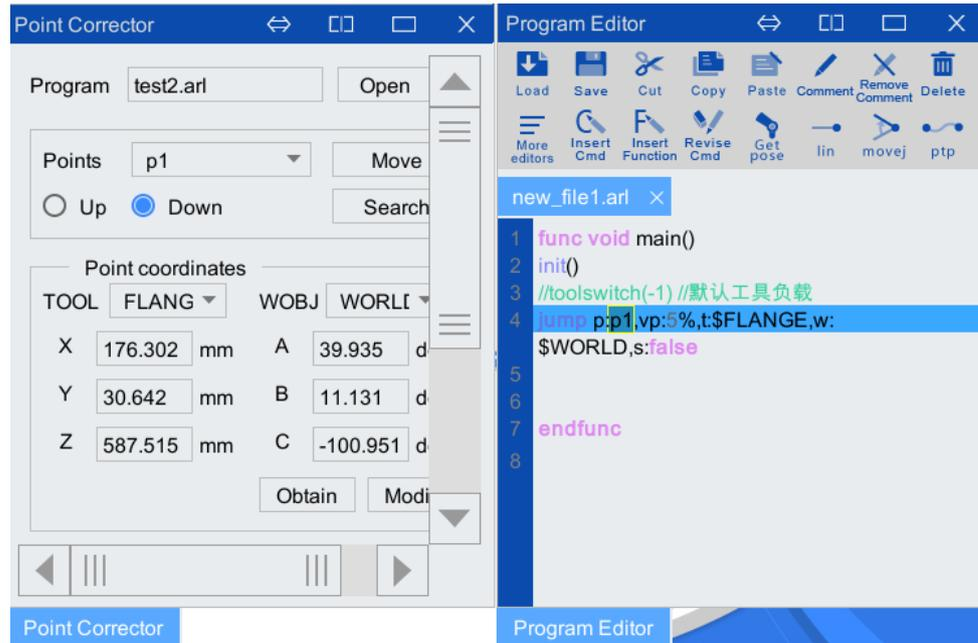

Figure 5-104 "Point List" Related button introduction
Step3.Click the drop-down box of "Point List" in Figure 5-104 to display all point data in the program. The <Up>, <Down> buttons and the <Search in Program> button are used together, meaning to search the selected point in the "points" from the current position in the program "up" or "down".